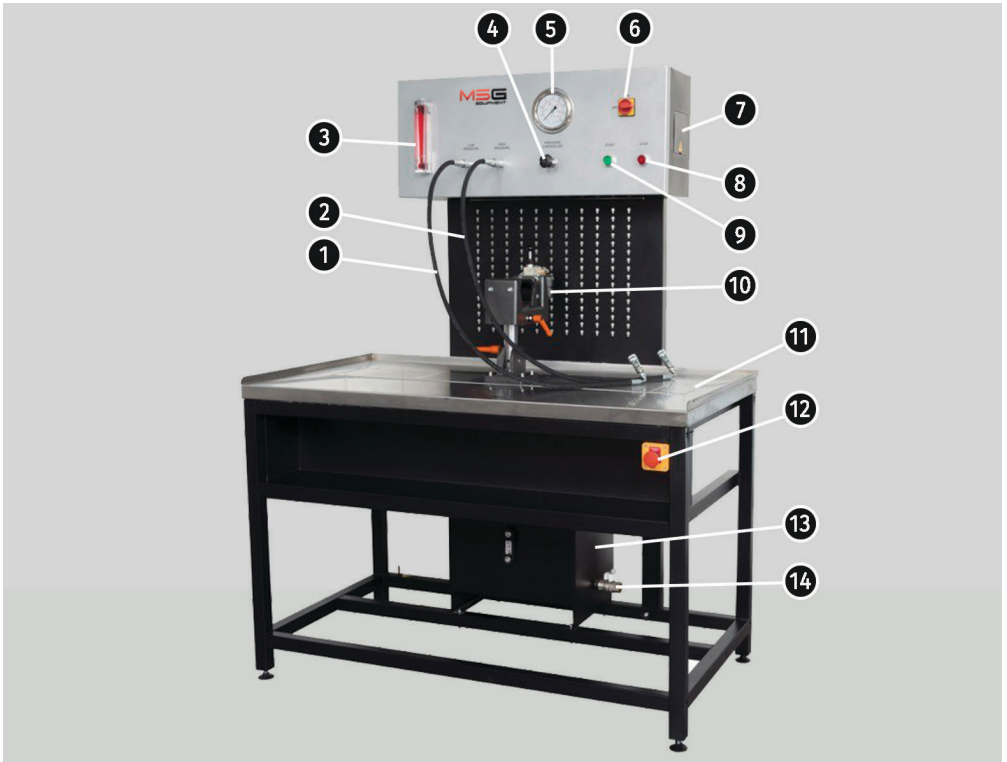

Figure 1. Main elements of the bench
The bench consists of the following main elements (see Fig. 1):
3) Turn on the automatic switch – voltage relay (see position 7 in Fig. 1).